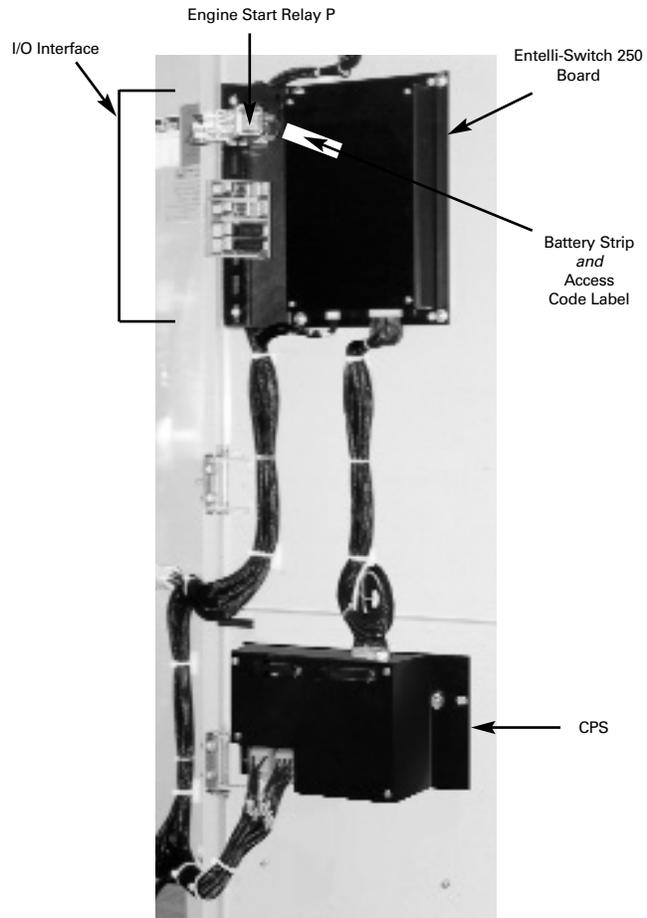

Figure 6
- A. Entelli-Switch 250 Board - Customer Input and Output (I/O) for system interface. Located on the left hand side of the back of the unit (see figure 6)
Contains transformers which drop line voltage to control level for controller input and SCR inputs (see figure 6).